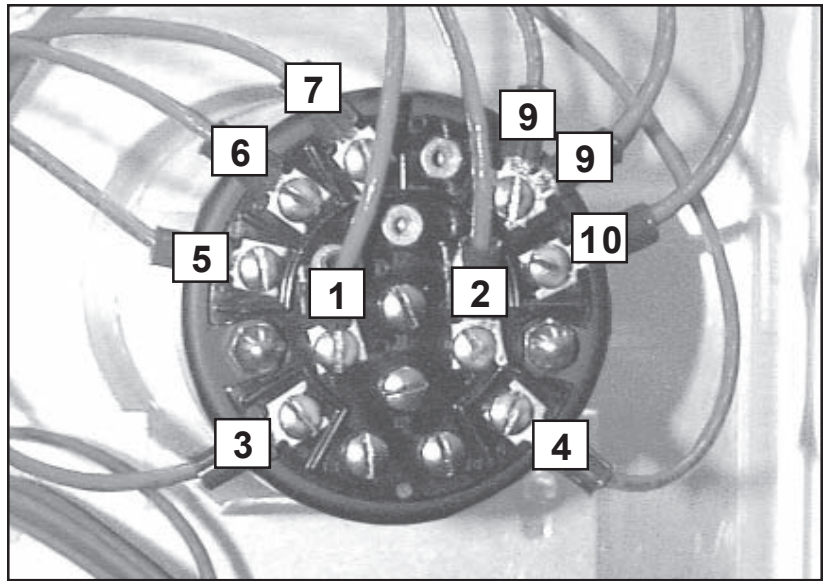

Figure 104. Oxygen Concentration Meter Wire Connections
5. Using tags, masking tape, or any other convenient means, tag each of the remaining ten wires on the meter with the terminal numbers to which they are connected (Figure 104). Notice that there are *two* wires on Terminal **9**. Failure to mark the wires will make it difficult to connect them correctly later.
4. Re-connect all ten wires to the oxygen concentration meter (Figure 104). Double-check all connections for tightness and correct terminations.